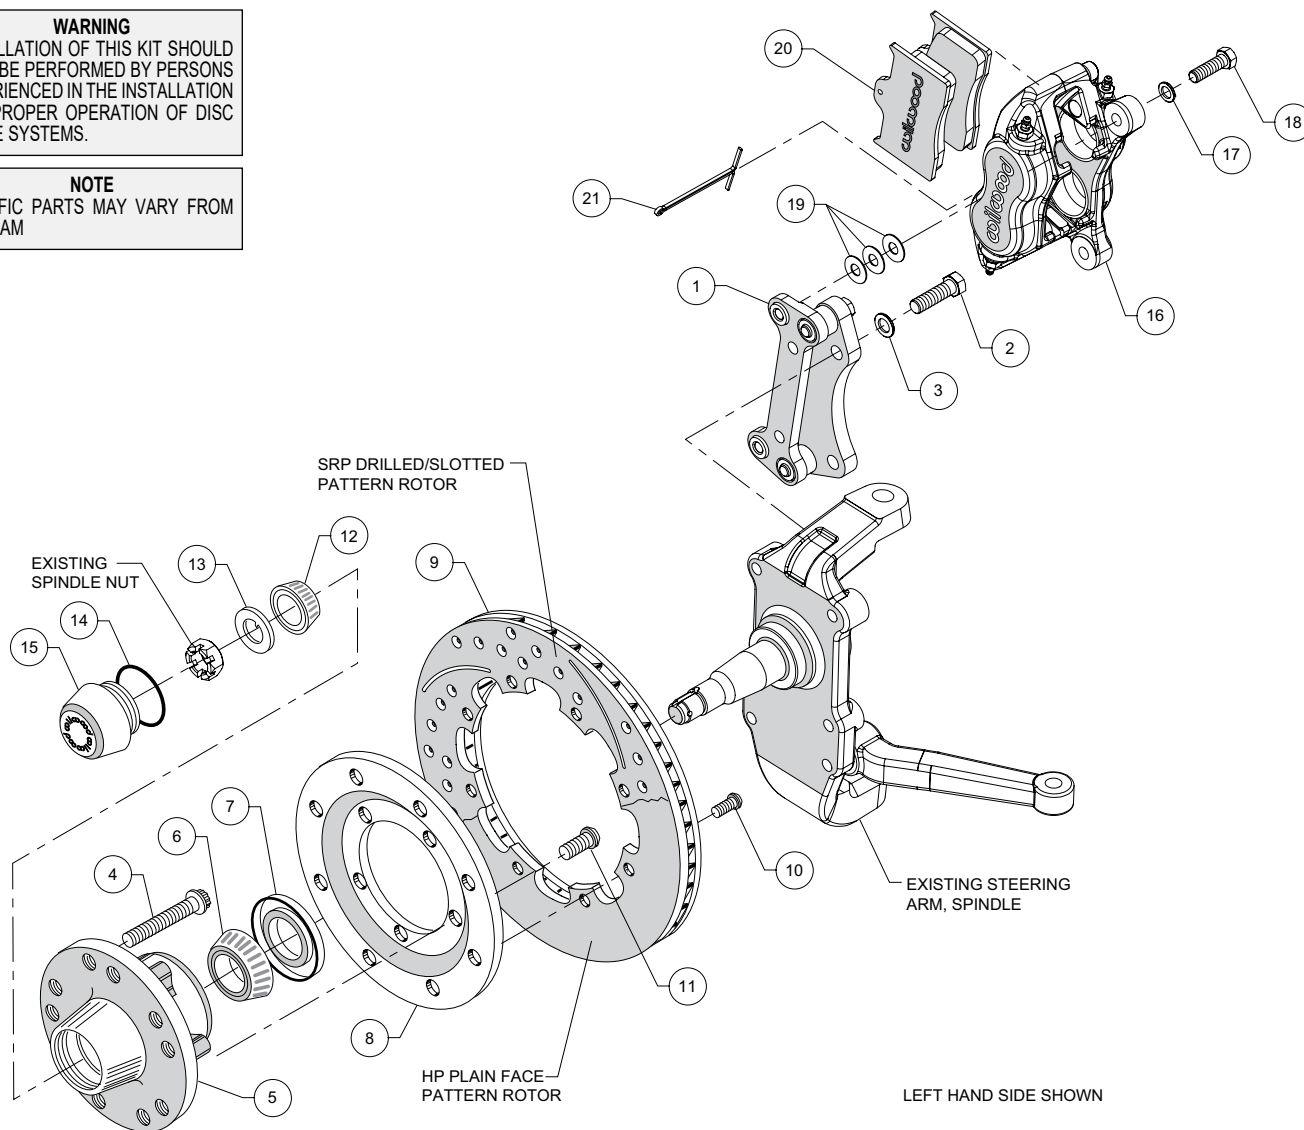
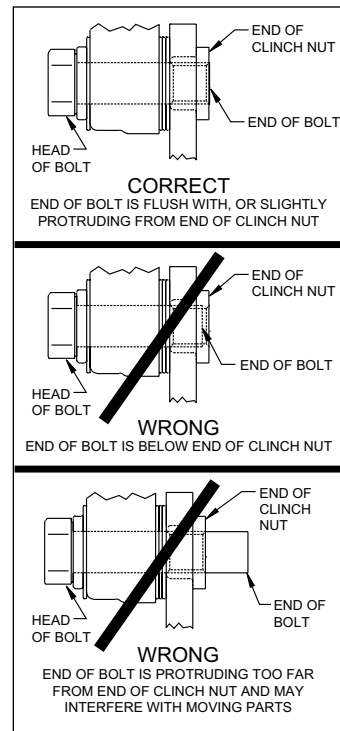

Figure 1. Typical Installation Configuration
Figure 3. Clinch Nut Engagement Diagram
•**NOTE:** Numbers in parenthesis refer to the parts list on the preceding page and Figure 1.
•**CAUTION:** All mounting bolts must fully engage clinch nuts. Be sure to check that all bolts are either flush or protruding through flanged side of clinch nut after shimming, Figure 3.
•Align caliper mounting bracket (1) with the corresponding holes, on the backside of the spindle and attach using bolts (2) and washers (3), as shown in Figure 1 and Photo 1. Temporarily tighten the mounting bolts. Ensure that the flanged heads of the clinch nuts in the bracket are facing outboard, Photo 1. **NOTE:** The bracket must fit squarely against the mounting points on the spindle. Inspect for interference from casting irregularities, machining ridges, burrs, etc. Remove bolts one at a time, apply red *Loctite*® 271 to threads, and torque to 55 ft-lb.
•Install wheel studs (4) into the hub (5), Photo 2. Torque to 77 ft-lb. **NOTE:** There are two five lug patterns in the hub (5 x 4.50 and 5 x 4.75). Ensure the correct hub stud pattern is being used to fit the wheel application.
•Pack the large inner bearing cone (6) with high temperature disc brake bearing grease (available from your local auto parts store) and install into the backside of the hub (5), Photo 3.
•Install the grease seal (7) by pressing into the backside of the hub (5), flush with the end of the hub, Photo 3.
- Orient the rotor (9) and the rotor adapter (8) as shown in Figure 1 and Photo 4. Attach the rotor to the adapter using bolts (10). Using an alternating sequence, apply red *Loctite*® 271 to the threads, and torque to 25 ft-lb.
- Mount the adapter/rotor assembly (8/9) to the hub (5) using bolts (11), as shown in Figure 1 and Photo 5. Using an alternating sequence, apply red *Loctite*® 271 to the threads, and torque to 45 ft-lb.
- Pack the small outer bearing cone (12) with high temperature disc brake bearing grease and install into hub (5). Slide the hub/rotor assembly onto the spindle. Secure using spindle washer (13) and OEM spindle nut, Photo 6. Adjust bearings per OEM specifications. Install saved OEM nut lock (if any) and a new cotter pin (not included).
- Screw dust cap (15) into hub (5), Photo 7. Friction created by the o-ring (14) on the dust cap keeps it from unscrewing. **NOTE:** *The O.D. of the existing OEM spindle washer may be larger than the I.D. of the dust cap not allowing it to seat against the hub face. Therefore, use the spindle washer (13) supplied with the kit instead of the OEM washer.*
- NOTE:** *Please reference the caution statement at the beginning of the assembly instructions.* Mount the caliper (16) onto the caliper mounting bracket (1) using bolts (18) and washers (17), as shown in Figure 1. Initially place three .035" thick shims (19) on each bolt between the caliper and the bracket, Photo 8. Temporarily tighten the mounting bolts and view the rotor (9) through the top opening of the caliper. The rotor should be centered in the caliper, Photo 9. If not, adjust by adding or subtracting shims between the bracket and the caliper. Always use the same amount of shims on each of the two mounting bolts. **NOTE:** *The end of each bolt must be flush with or slightly protruding from the head of the clinch nut, as shown in Figure 3.* If necessary place spare shims between washer (17) and caliper mounting ear to achieve the proper clinch nut engagement. Once the caliper alignment and clinch nut engagement are correct, remove the bolts one at a time, apply red *Loctite*® 271 to bolt threads, and torque to 40 ft-lb.
- Install the disc brake pads (20) into the caliper, with the friction material facing the rotor (9), and secure in place using cotter pin (21), Photo 10.